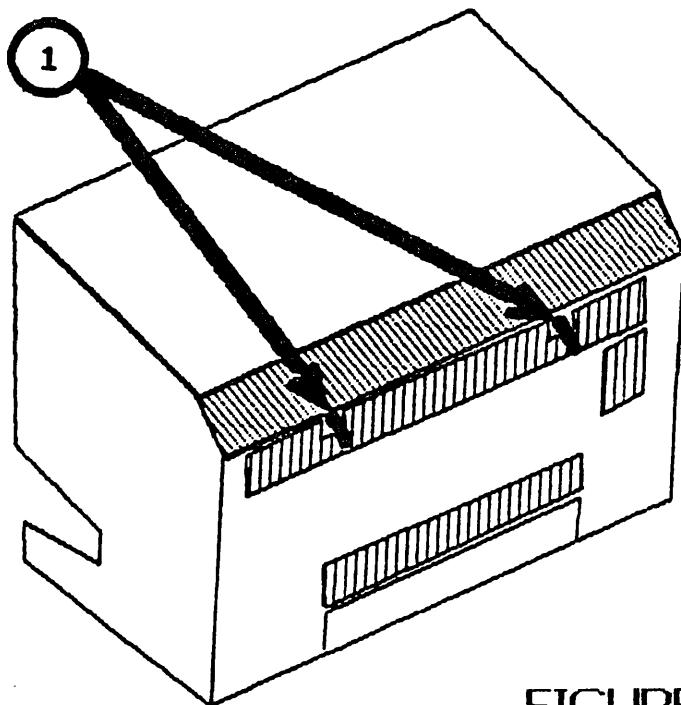

FIGURE 13
1. Turn the two thumbscrews (see Figure 13, #1) along the upper edge of the rear panel counterclockwise until they won't turn any further.